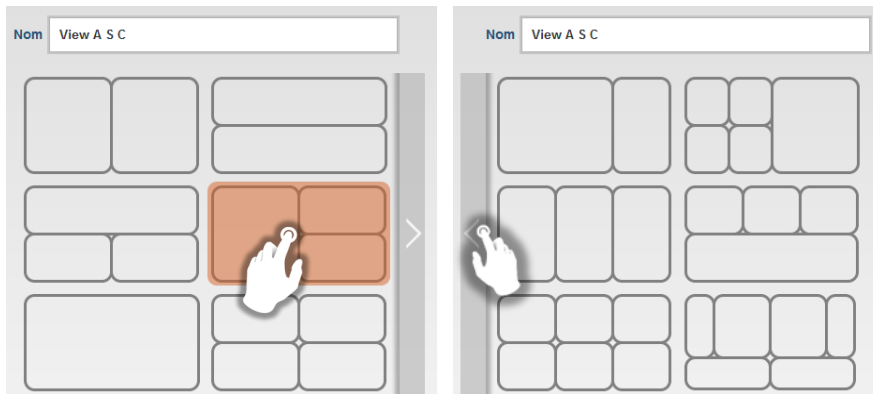

Figure 177: Display subpanel windows
- 3: Each tab can be managed individually and a maximum of six different windows is configurable per tab. Press the **left or right arrows** to switch the available layouts (Figure 177).